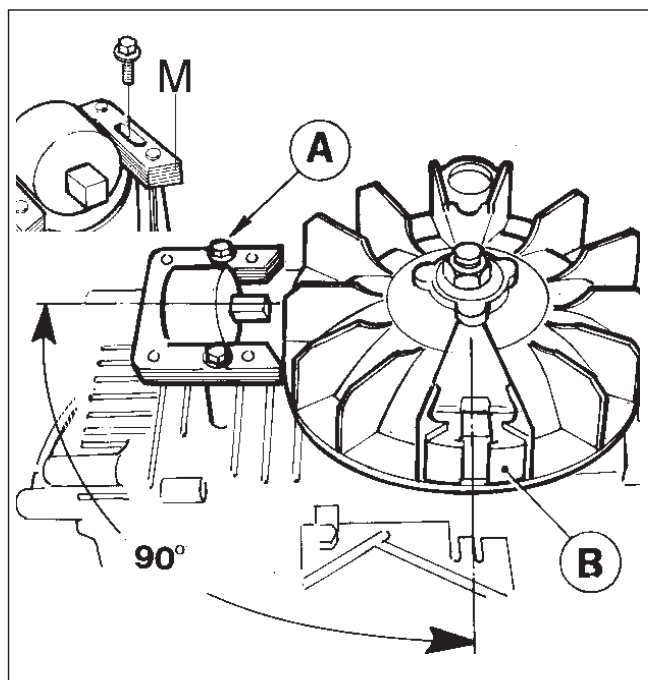

Fig. 16
On BV engines an external coil ignition system is fitted. On this model the coil assembly is mounted on two pillars cast on the cylinder (Fig 16).
- Position flywheel magnets **B** as per Fig 16